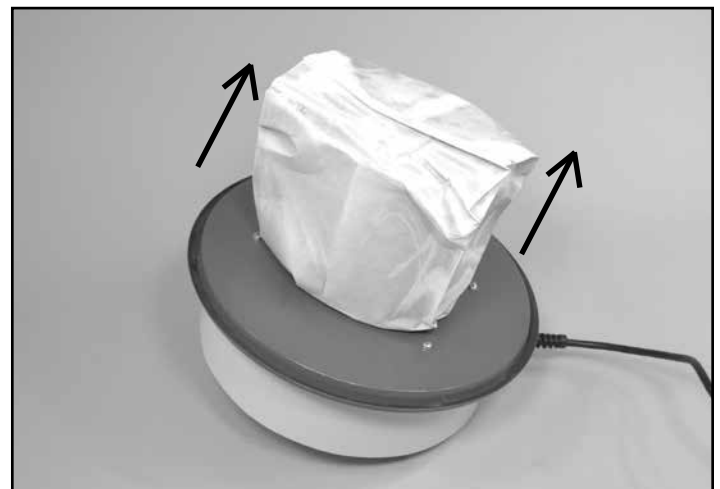

FIG. 6
2. Slide the paper bag filter and cartridge filter off of the motor assembly as one unit. FIG. 6.